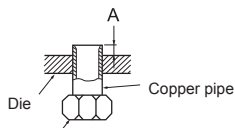

Fig. 5
- Put the refrigerant piping and the drain hose together, then firmly apply felt tape (4) from the end. Felt tape (4) overlap width should be 1/3 the tape width. Use a bandage stopper at the end of felt tape (4).
- Insert the drain hose into wall hole sleeve (C), and hook the upper part of indoor unit on installation plate (1). Then, move the indoor unit completely to the left in order to make placing the piping in the back space of the unit easier.
- Cut out a piece of cardboard from the shipping box, roll it up, hook it onto the back rib, and use it as a spacer to lift the indoor unit. (Fig. 5)
- Connect the refrigerant piping with the extension pipe (B).
- Thrust the lower part of the indoor unit into the installation plate (1).